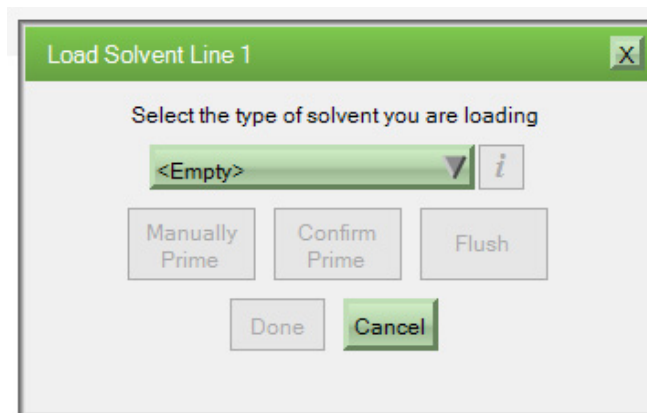

Figure 3-5: Load Solvent Line Dialog Box
4. Press *Load* to present the *Load Solvent Line* dialog box (Figure 3-5).